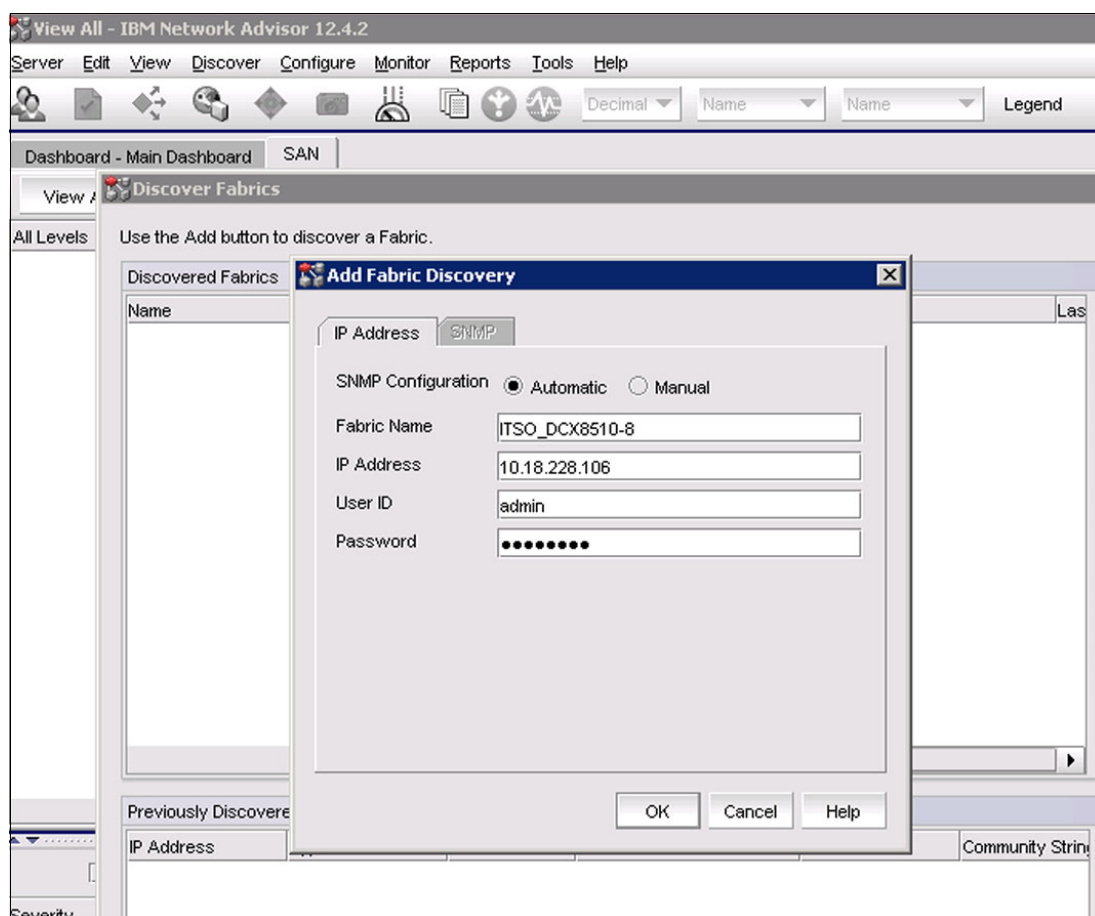

Figure 4-48 Discovering new fabrics
1. Click **Discover** → **Fabric**. Figure 4-48 shows the discovery procedure.